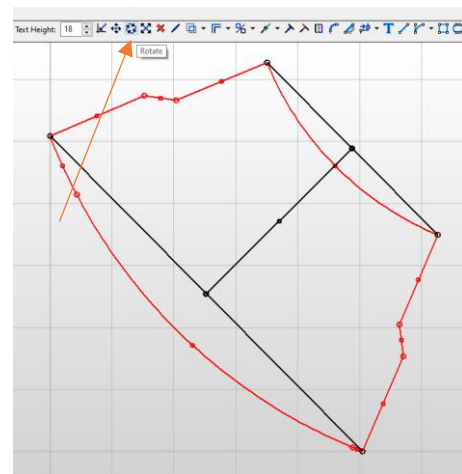

Figure 36
4. **ROTATE:** To rotate the geometry click  **Rotate** on the Main Toolbar (Figure 36) or click **[R]** to activate the rotation tool by using the Command Prompt Command - R (ROTATE, RECTANGLE) and press **[SPACE]** or **[ENTER]** to confirm the suggestion in the Command Prompt (in this case ROTATE).